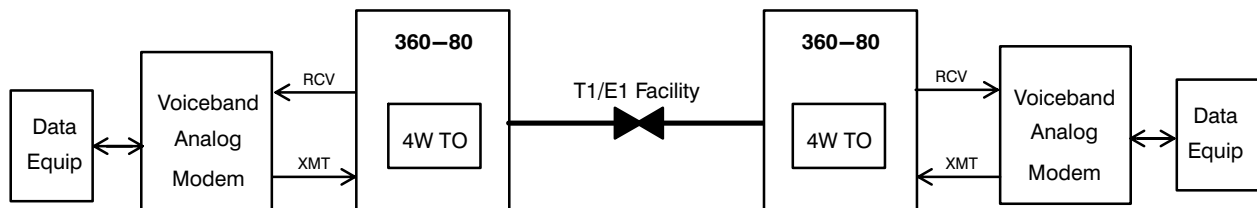

Figure 6. Typical Voiceband Modem Data Application
TO channel units are used for circuits where DC signaling is not required. The unit can be optioned for 2-wire (2W) or 4-wire (4W) mode. Typical applications include providing channels for 4W voiceband modems in point-to-point or multipoint networks. See Figure 6.
The digital signaling information from the network interface unit is converted into the A and B signaling highway information. Although both the A and B signaling highways are supposed to be the same, in the event they are not, only the A highway is observed. The incoming A signaling highway is used to illuminate the busy LED and operate the relay to change the signaling leads on the analog output of the unit. The unit is compatible with E&M modes type I through V (see figure 6). When the incoming A signaling highway changes states from idle (0) to busy (1), the relay is operated and the output E, or E and SG lead, change states from idle to busy.
Type I and V E&M signaling only require the use of the E and M leads. Type II, III, and IV require the use of both the E&M and SG and SB leads on the unit (see figure 6). For types I and V, it is also essential that the power return ground connected to the ICB be the same reference as the power return ground used by the interfacing local E&M equipment. The transmission and signaling leads are designed to be used only in local, in-house wiring facilities and not to outside plant wiring facilities.